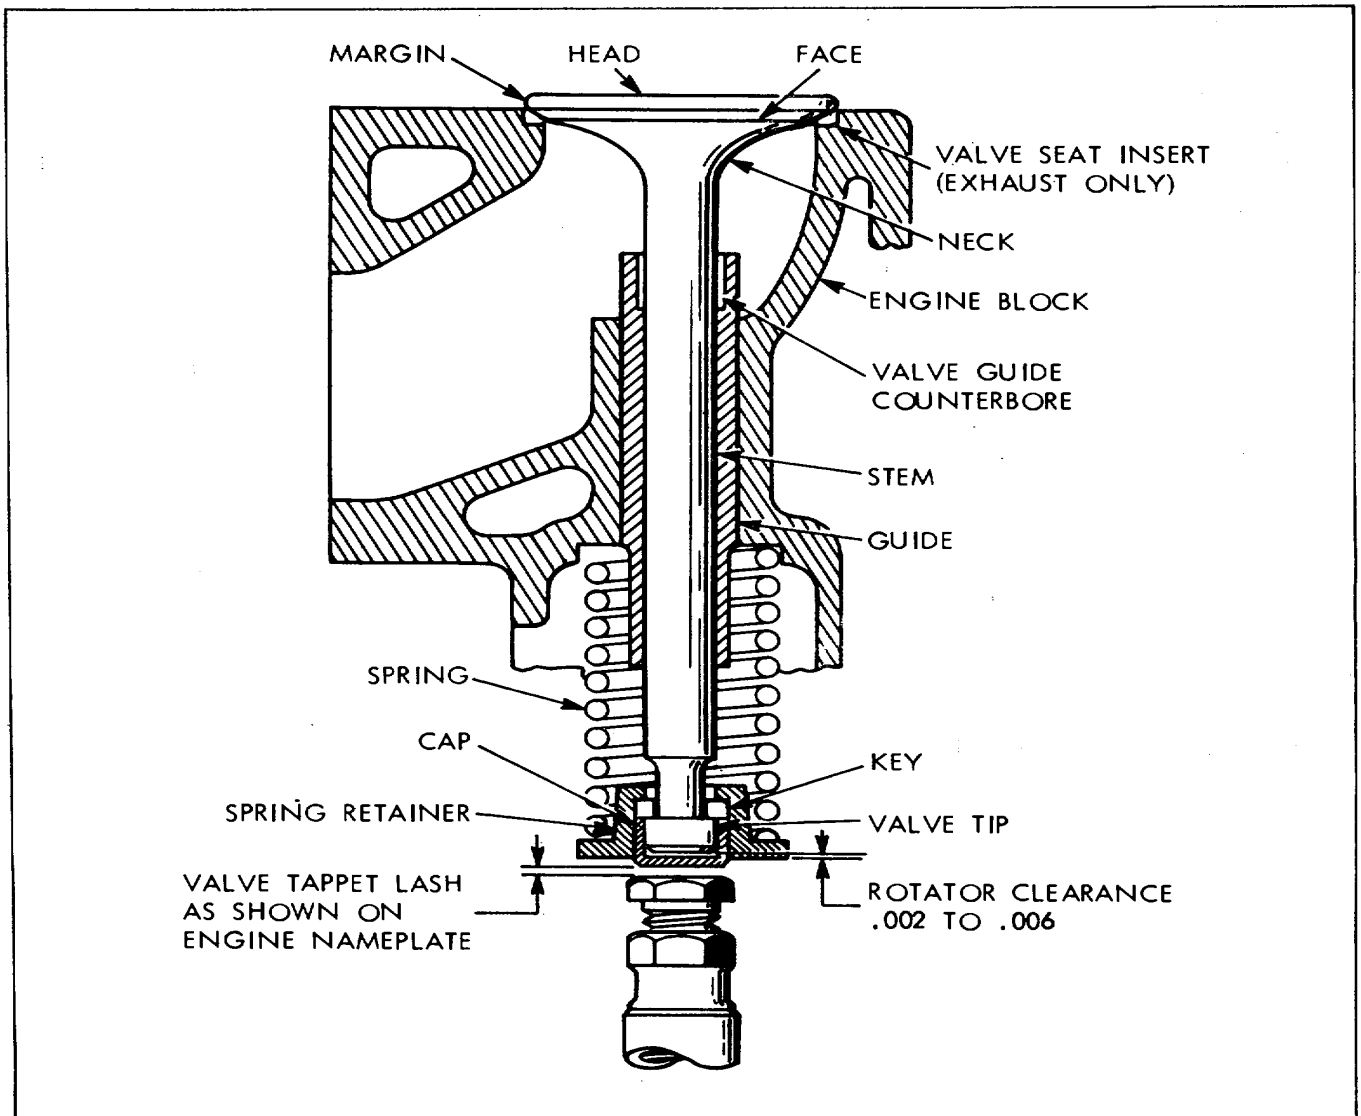

Figure 6-40. Valve Installation
a. Description. The engine valves are equipped with valve rotators, which consist of a special seat retainer (Figure 6-40), a cap, a pair of flat half-round keys, and a special shaped valve stem. The lift cycle of the valve is as follows:
(1) Tappet travels through normal valve clearance to contact cap.
(2) Tappet travels 0.002 to 0.006 inch, through rotator clearance, lifting keys from valve stem contact, but not yet lifting valve. Valve can turn now, as keys no longer grip it at stem.
(3) Continued lift of tappet raises valve through push on cap. Valve will rotate slightly each time it opens, due to various forces acting on it.